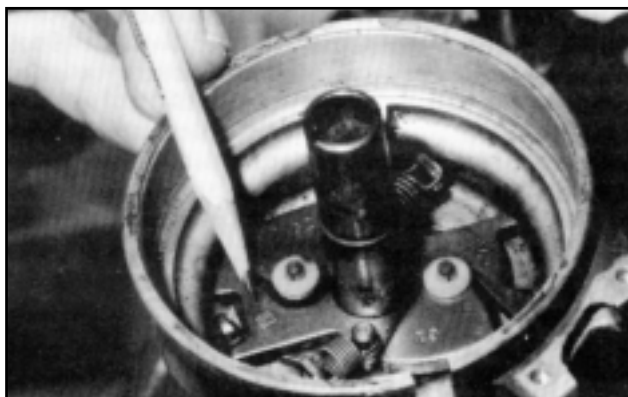

FIG. 11
The Ford centrifugal advance curve utilizes a two stage type of curve. Your stock centrifugal advance springs consist of one light closed loop spring and one heavy spring with a closed loop on one end and a long loop on the other end. This long loop spring is the only spring you may need to change. There are three springs to choose from in the kit. The recommended combinations are on the chart below. There are a couple of factors that can change these figures. They are: (1) Using a different length (measured in degrees) governor slot. We recommend using the shortest slot of the two available on your governor (FIG. 11) for the best economy and street performance. (2) Bending the spring tang on the lower plate in or out can also change the centrifugal curve even more.